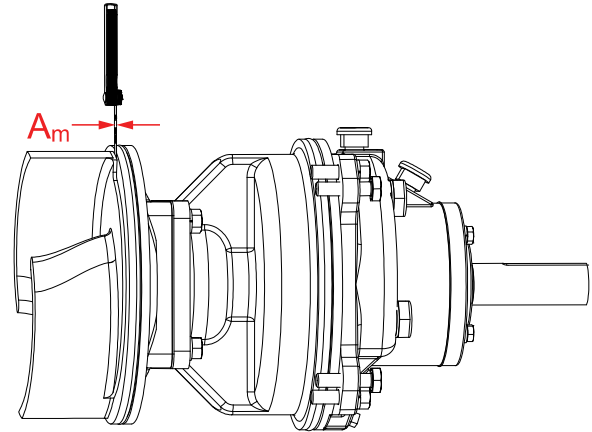

Figure 12-20: Dimension " A_m "
1. To set the seal plate (184) clearance, ensure the impeller (102) is fully threaded into position such that the seal is fully compressed and the full set of impeller shims (450) are installed. The impeller bolt (379) and washer (345) do not need to be installed for this process.
2. Measure the gap between the backside of the impeller (102) and seal plate (184). Record this measurement, this distance is " A_m " as shown in Figure 12-20.
3. Refer to Table 12-2 for recommended seal plate (184) impeller (102) clearance. Subtract distance " A " from distance measured " A_m " to determine the thickness of impeller shims (450) to remove. This impeller shim (450) removal amount will be denoted as " A_r ".